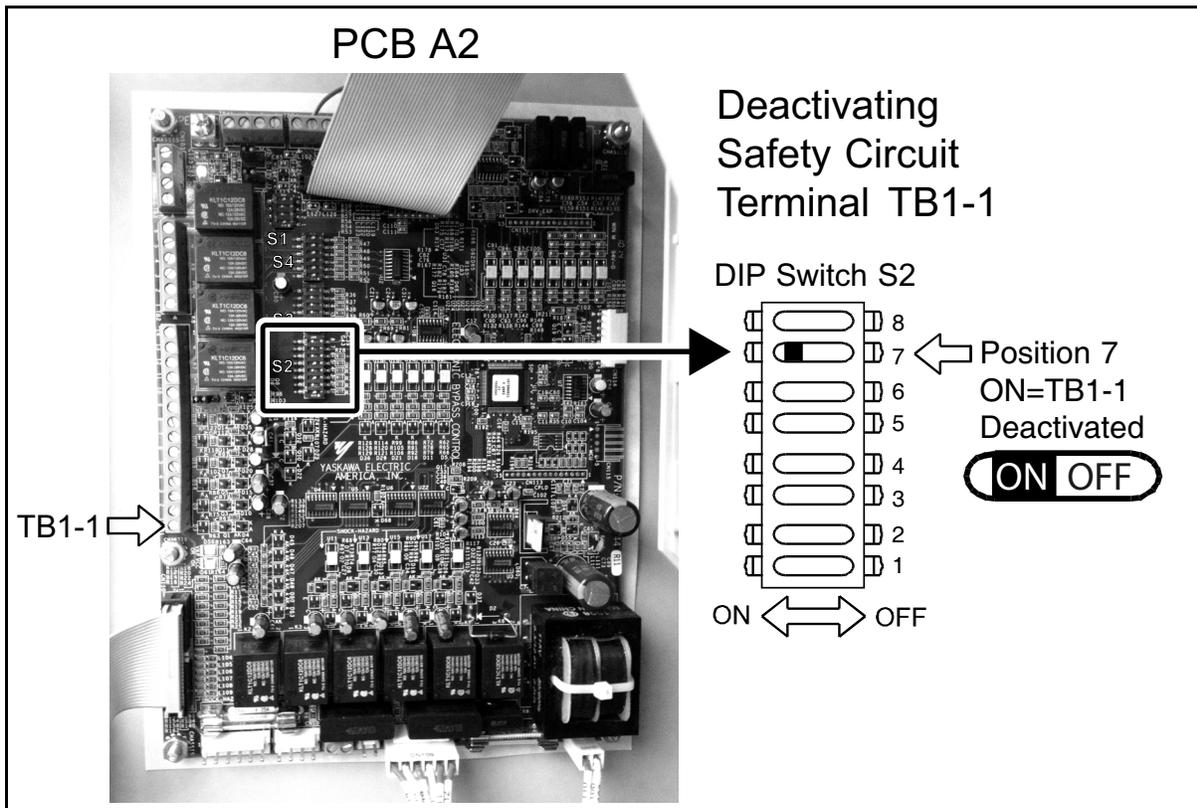

Figure 4 Option 3: Deactivating the Safety Circuit with DIP Switch S2-7
3. Option 3: De-activate these terminals by moving DIP switch S2-7 to the ON position (toward the enclosure door) according to Figure 4. This solution is only suggested if a Safety Circuit will never be applied to the drive system.